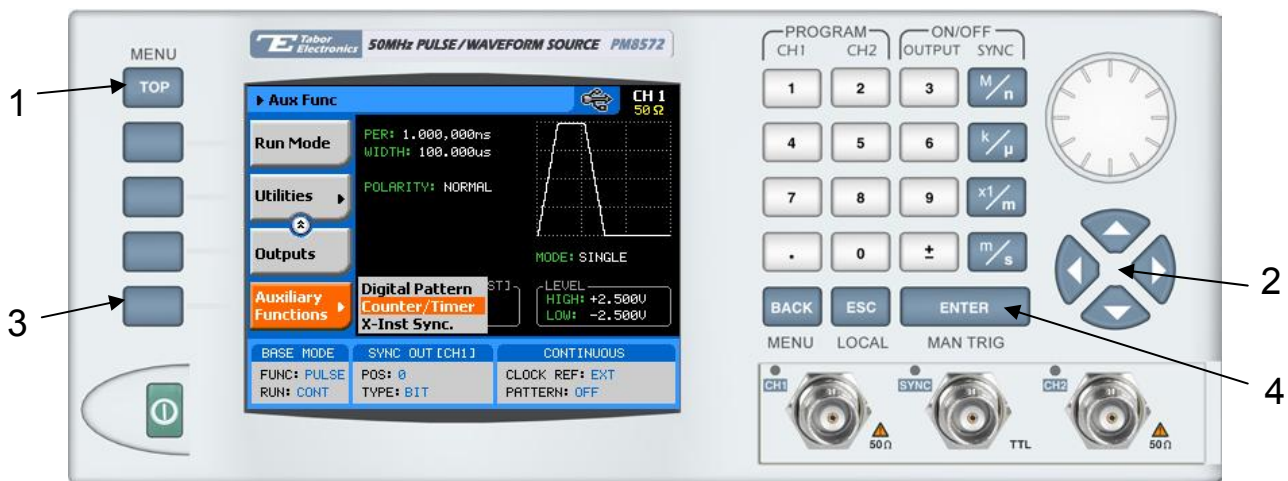

Figure 3-84, Accessing the Counter/Timer Menus
3. Press Auxiliary Functions soft key and notice that the Counter/Timer option is highlighted, as shown in Figure 3-84.